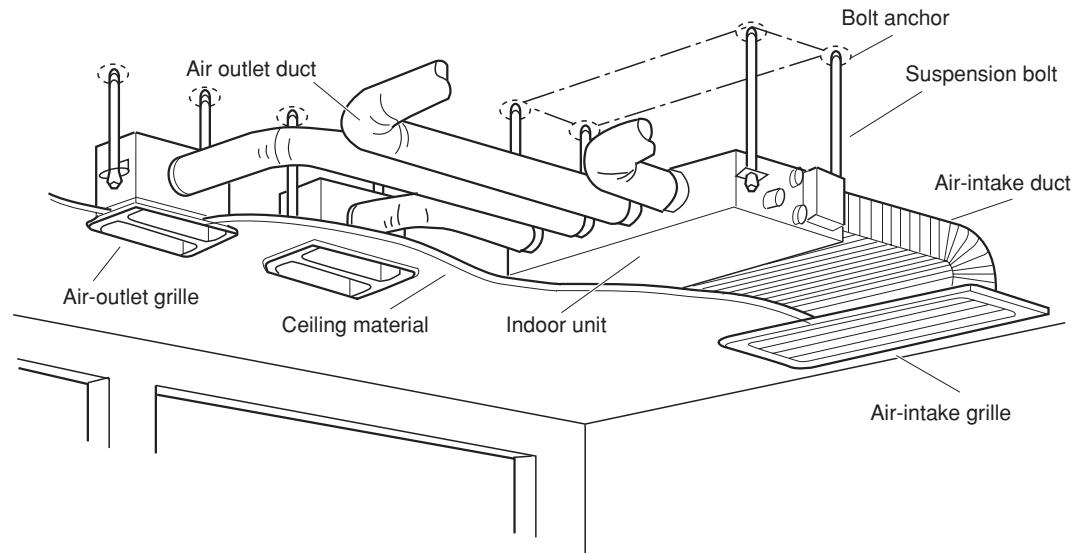

Fig. 3-104
- Fig. 3-104 shows an example of installation.